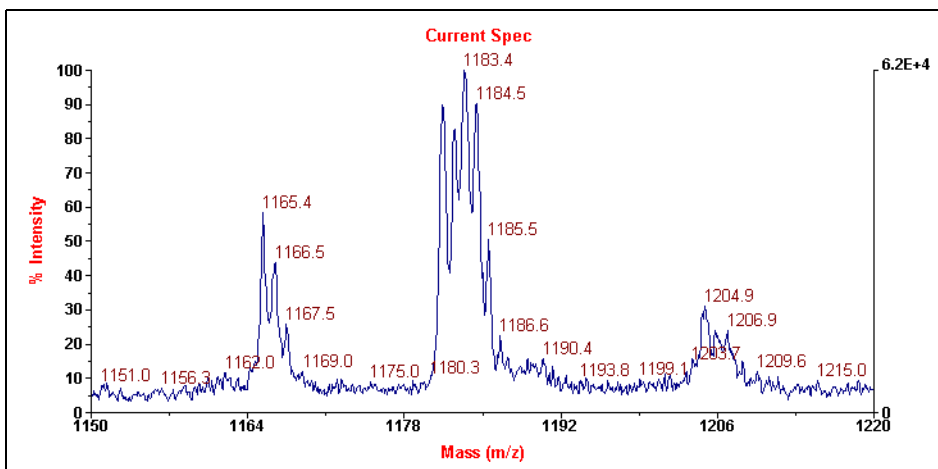

Figure 8-15 Angiotensin I Fragment Ions at High Laser Intensity
- Continue increasing the laser intensity and observing the signal. Figure 8-15 shows the effect of higher laser intensity on the angiotensin I spectrum.